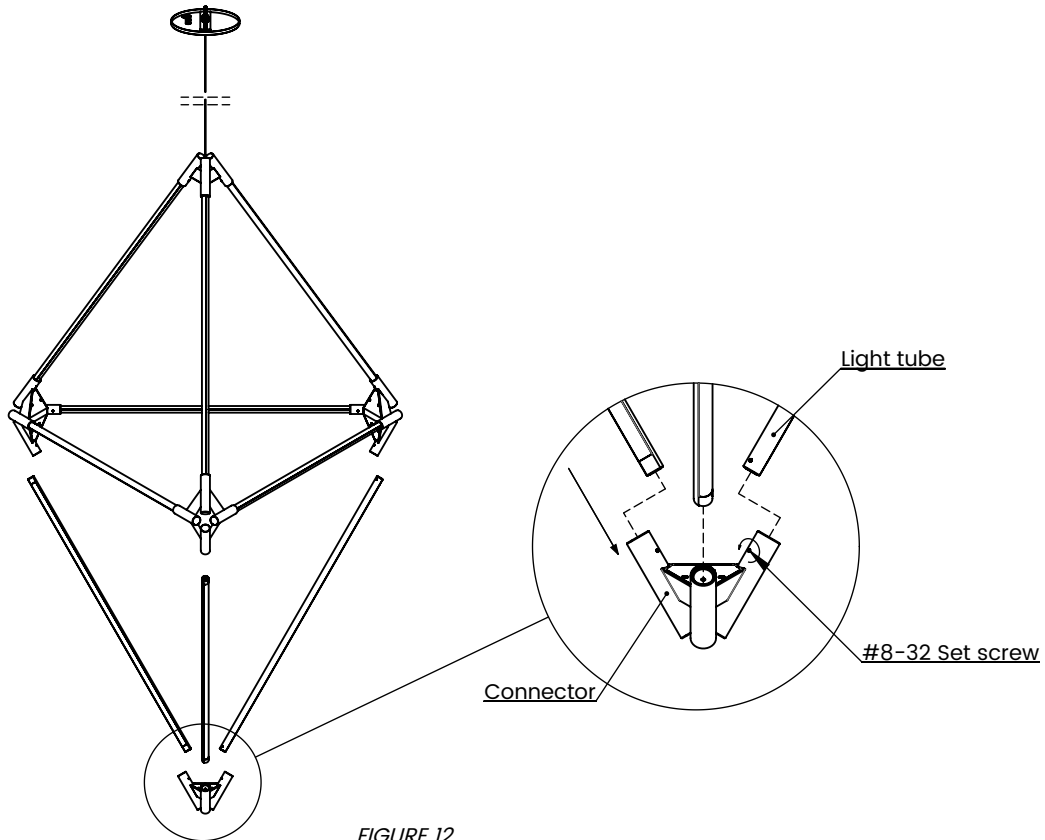

FIGURE 12
2. Insert Light tubes into the connector as shown in figure 12.